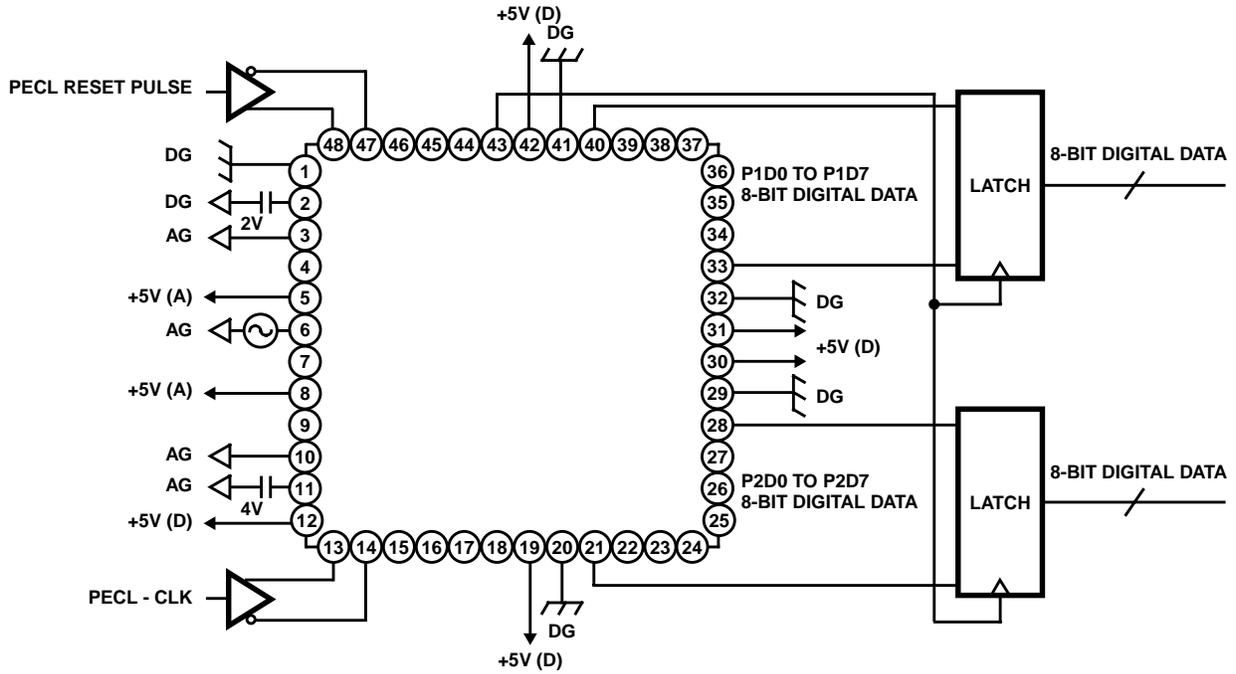

FIGURE 18. DMUX PECL INPUT
**DMUX Mode (See Application Circuits, Figures 18, 19)**